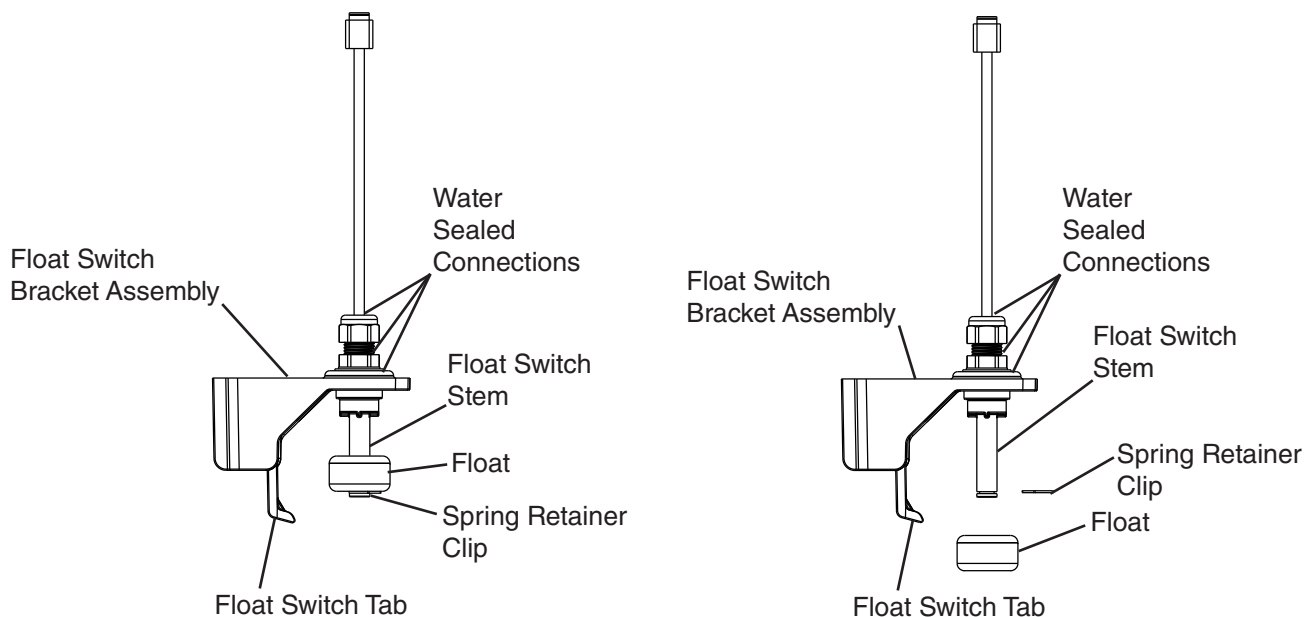

Fig. 12
- 5) Remove the spring retainer clip from the float switch rod, then remove the float. Be careful not to bend the spring retainer clip excessively when removing it. See Fig. 12.